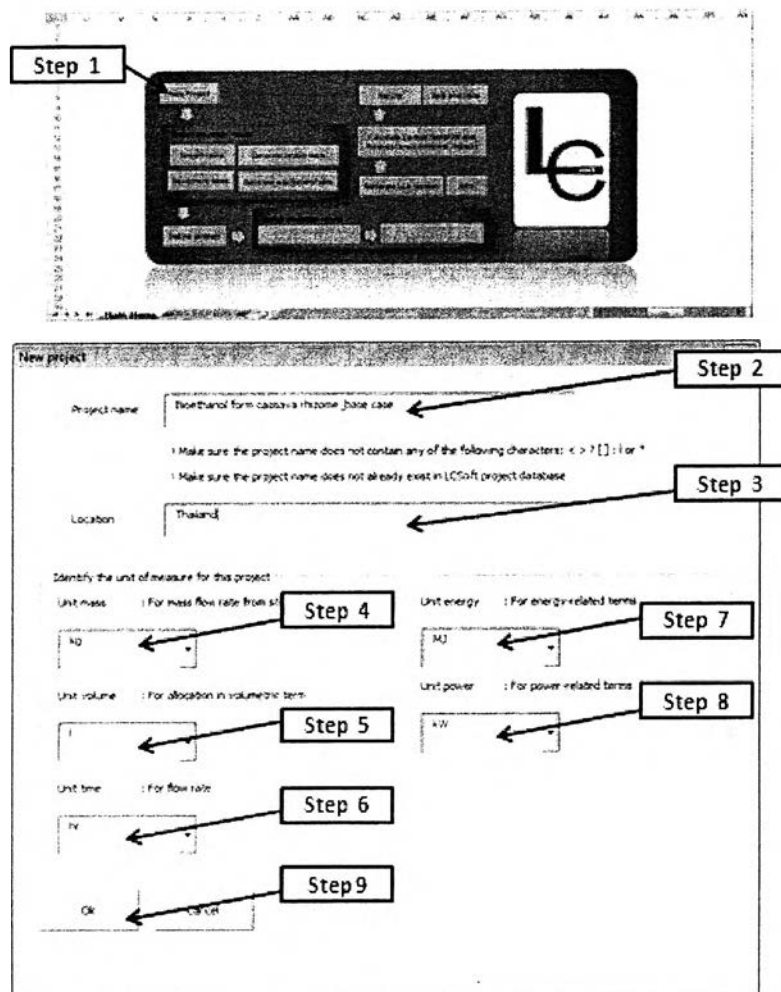

Figure A.6 Steps to create new project
- Mass unit: kg (Figure A.6)
- Time unit: hr (Figure A.6)